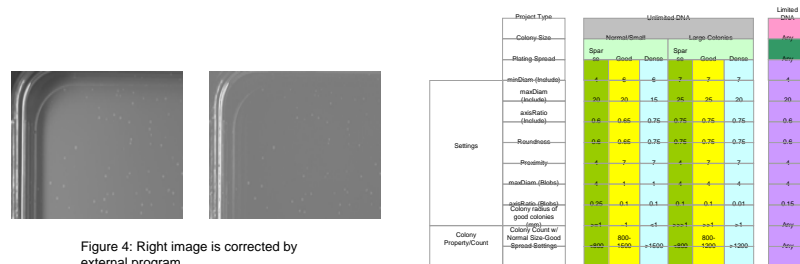

Figure 4: Right image is corrected by external program.
The **calibration routine** that is used by the standard software images 1 region and uses that value to pick throughout all 35 image regions. This routine did not attain a value that represented all 35 image regions with the pre-poured bioassay trays the JGI uses. Instead of moving to in-house pouring (a huge process shift), the JGI decided to use a calibration routine that worked better in production. 5 image regions are calibrated and the results are averaged on a "Calibration Results" screen which is shown to the operators at the end of the routine (Figure 3). The operator can then deselect checkboxes for regions that have 'bad' calibration values. The remaining values will be averaged and the operator can use that average or re-calibrate. This calibration routine has made the number of holes per plate stabilize more than it used to be (Figure 4) and has drastically reduced the number of work requests based on bad calibration/imaging.
- Background Correction (solving the colorspace issue – Figure 4)